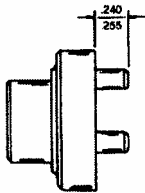

Fig. 1 - SINGLE REDUCTION SPIDER
The spider (14) should be pressed out of the rear of the gear case (13). Remove the retainer ring (11) and press the bearing (12) out of the front of the gear case (13). If replacement of the idler gear pins (15) is necessary, they should be pressed out of the rear of the spider (14). See Figure 1 for replacement pin height.